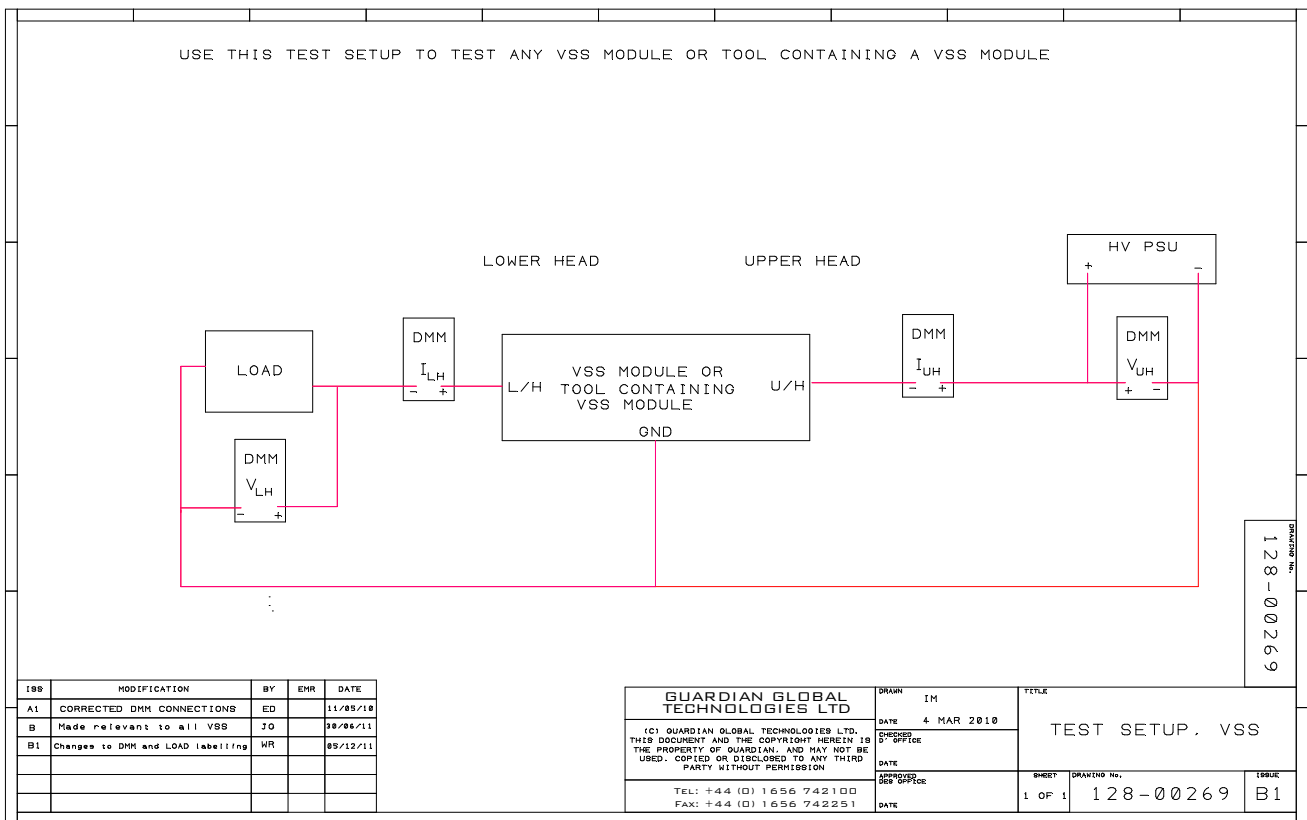

Figure 7-1 VSS Test Setup
1. Setup the VSS tool and test equipment according to Figure 7-1.
5. When adjusting the HV PSU, unless the test specifies otherwise, always start from 0V and increase the voltage at a rate of approx. 50V/sec; use the stopwatch to help keep the ramp rate consistent. For example, if the Upper Head (UH) voltage is to be set to 150V, turn the dial gradually over 3 seconds up to 150V. Decrease the voltage promptly after completing the test.
2. Connect the VSS-U module on the bench as shown in Figure 7-1 using the 500 Ω 500W Test Load (301-00925).
2. Connect the VSS-U module on the bench as shown in Figure 7-1 using the 500  $\Omega$  500W Test Load (301-00925).
- Connect the VSS-U module on the bench as shown in Figure 7-1 using the 500 Ω 500W Test Load (301-00925).